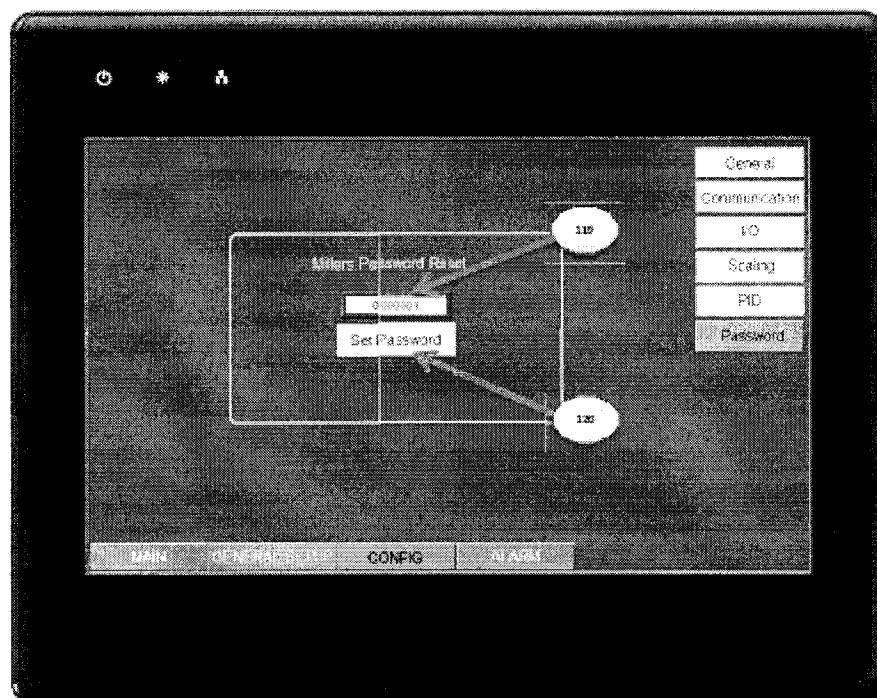

Figure 12
- the detailed description makes reference to Fig. 12 only in par. [0353], and without any reference to the elements in the figure;